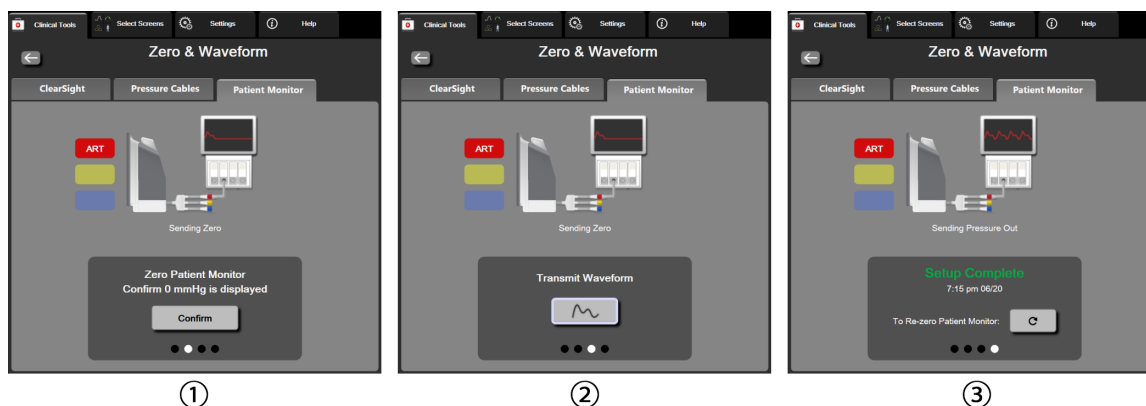

Figure 11-8: Transmit arterial pressure waveform to patient monitor
5. Zero patient monitor and confirm 0 mmHg is displayed. Touch **Confirm**. See (1) in Figure 11-8 on page 204.
6. Touch the **Transmit Waveform** icon  to begin pressure signal output to the patient monitor. See (2) in Figure 11-8 on page 204.
7. A "Setup Complete" message will be displayed when the live waveform is being transmitted to the connected patient monitor. See (3) in Figure 11-8 on page 204.